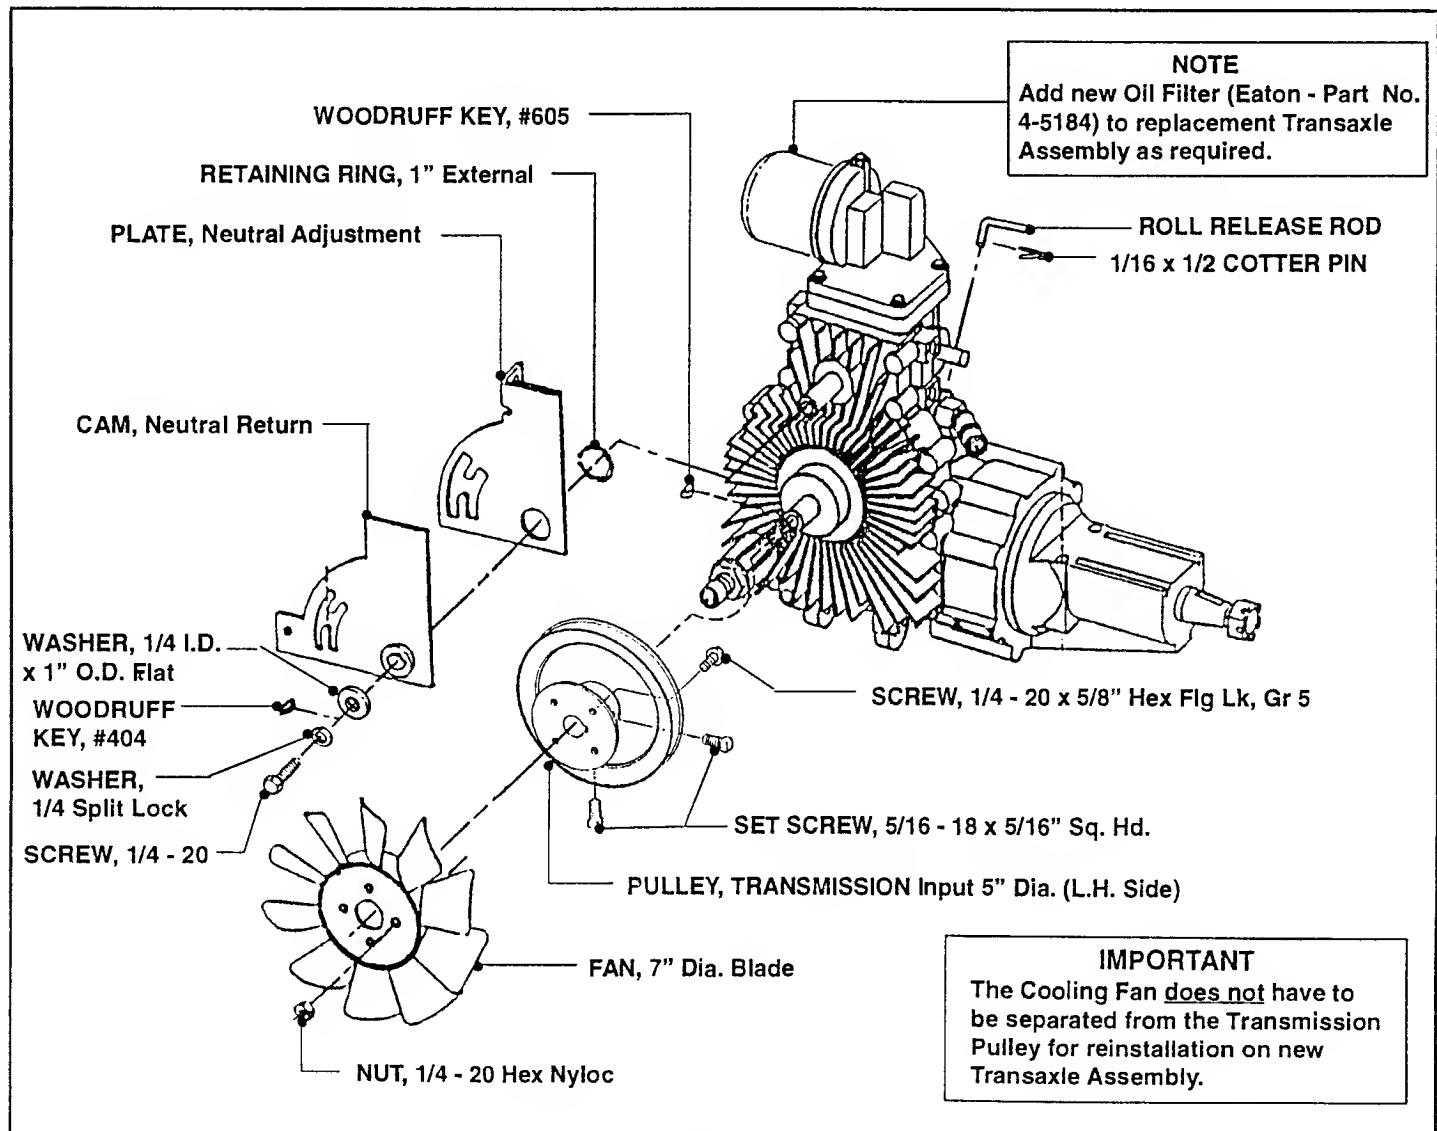

FIGURE 5.14
A. Remove the following parts from the Hydro Transaxle Assembly which is to be replaced. See Figure 5.14
- Loosen the two (2) 5/16 - 18 x 5/16 Sq. Hd. Set Screws.
1. New Oil Filter (Eaton - Part No. 4-5184). Refer to Figure 5.14, Page 5.7.
6. Install Transmission Pulley/Cooling Fan Assembly and loosely tighten the two (2) Set Screws (Pulley will have its final tightening when Traction Belt(s) are aligned).